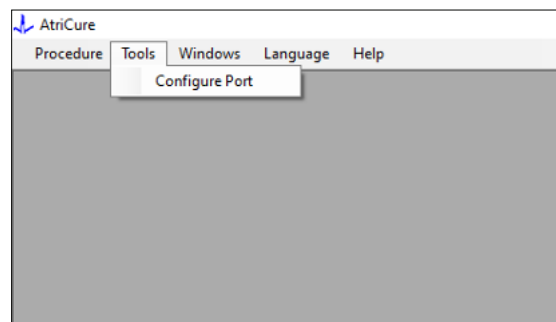
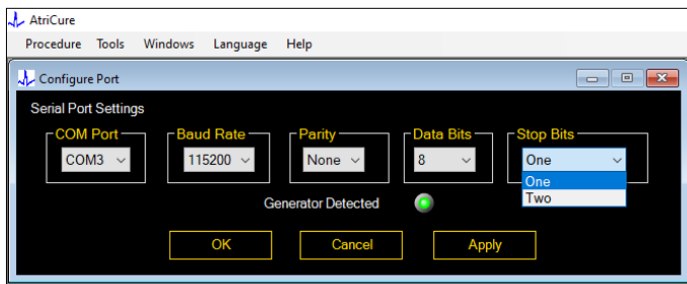

Figure 8: Option for configuring Communication Port settings in the software
Figure 9: Options for configuring Communication Port settings in the software
2. Selecting Tools > Configure Port opens the following window (refer **Figure 8** and **Figure 9**):